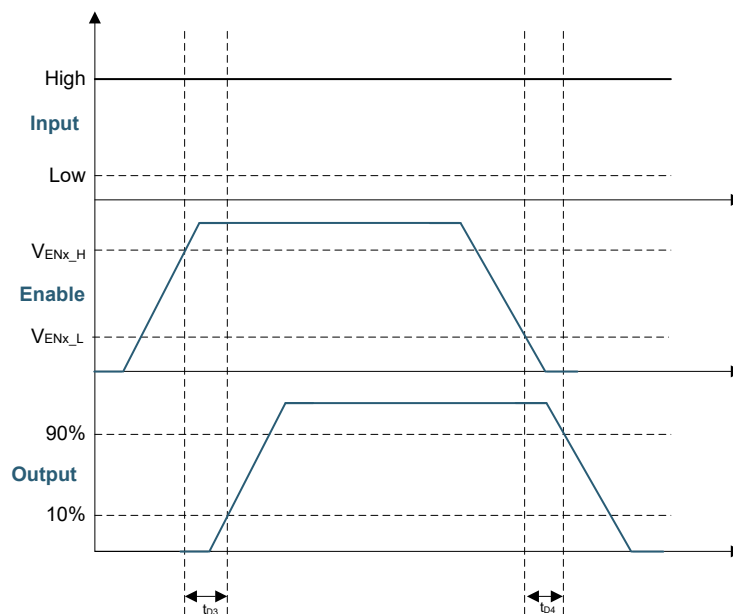
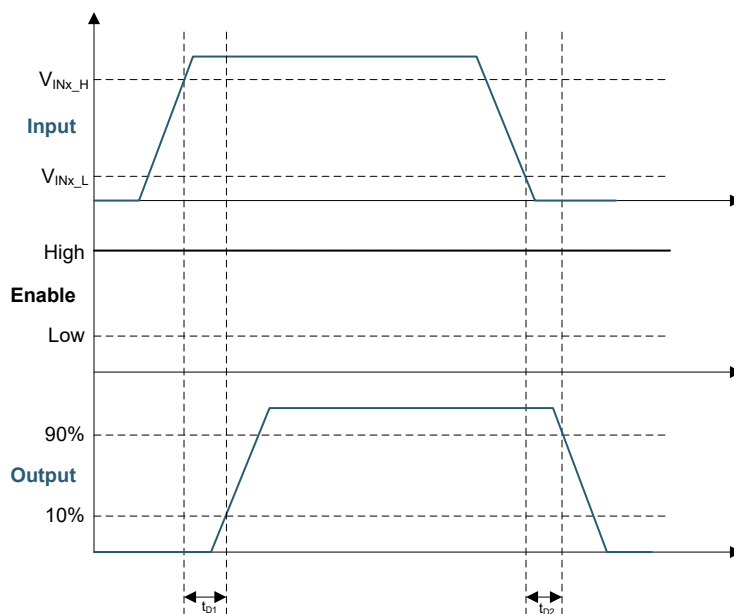

Figure 5-1. Enable Function
Figure 5-2. Input-Output Operation
- (1) Switching parameters are not tested in production.
(2) See the timing diagrams in Figure 5-1 and Figure 5-2.